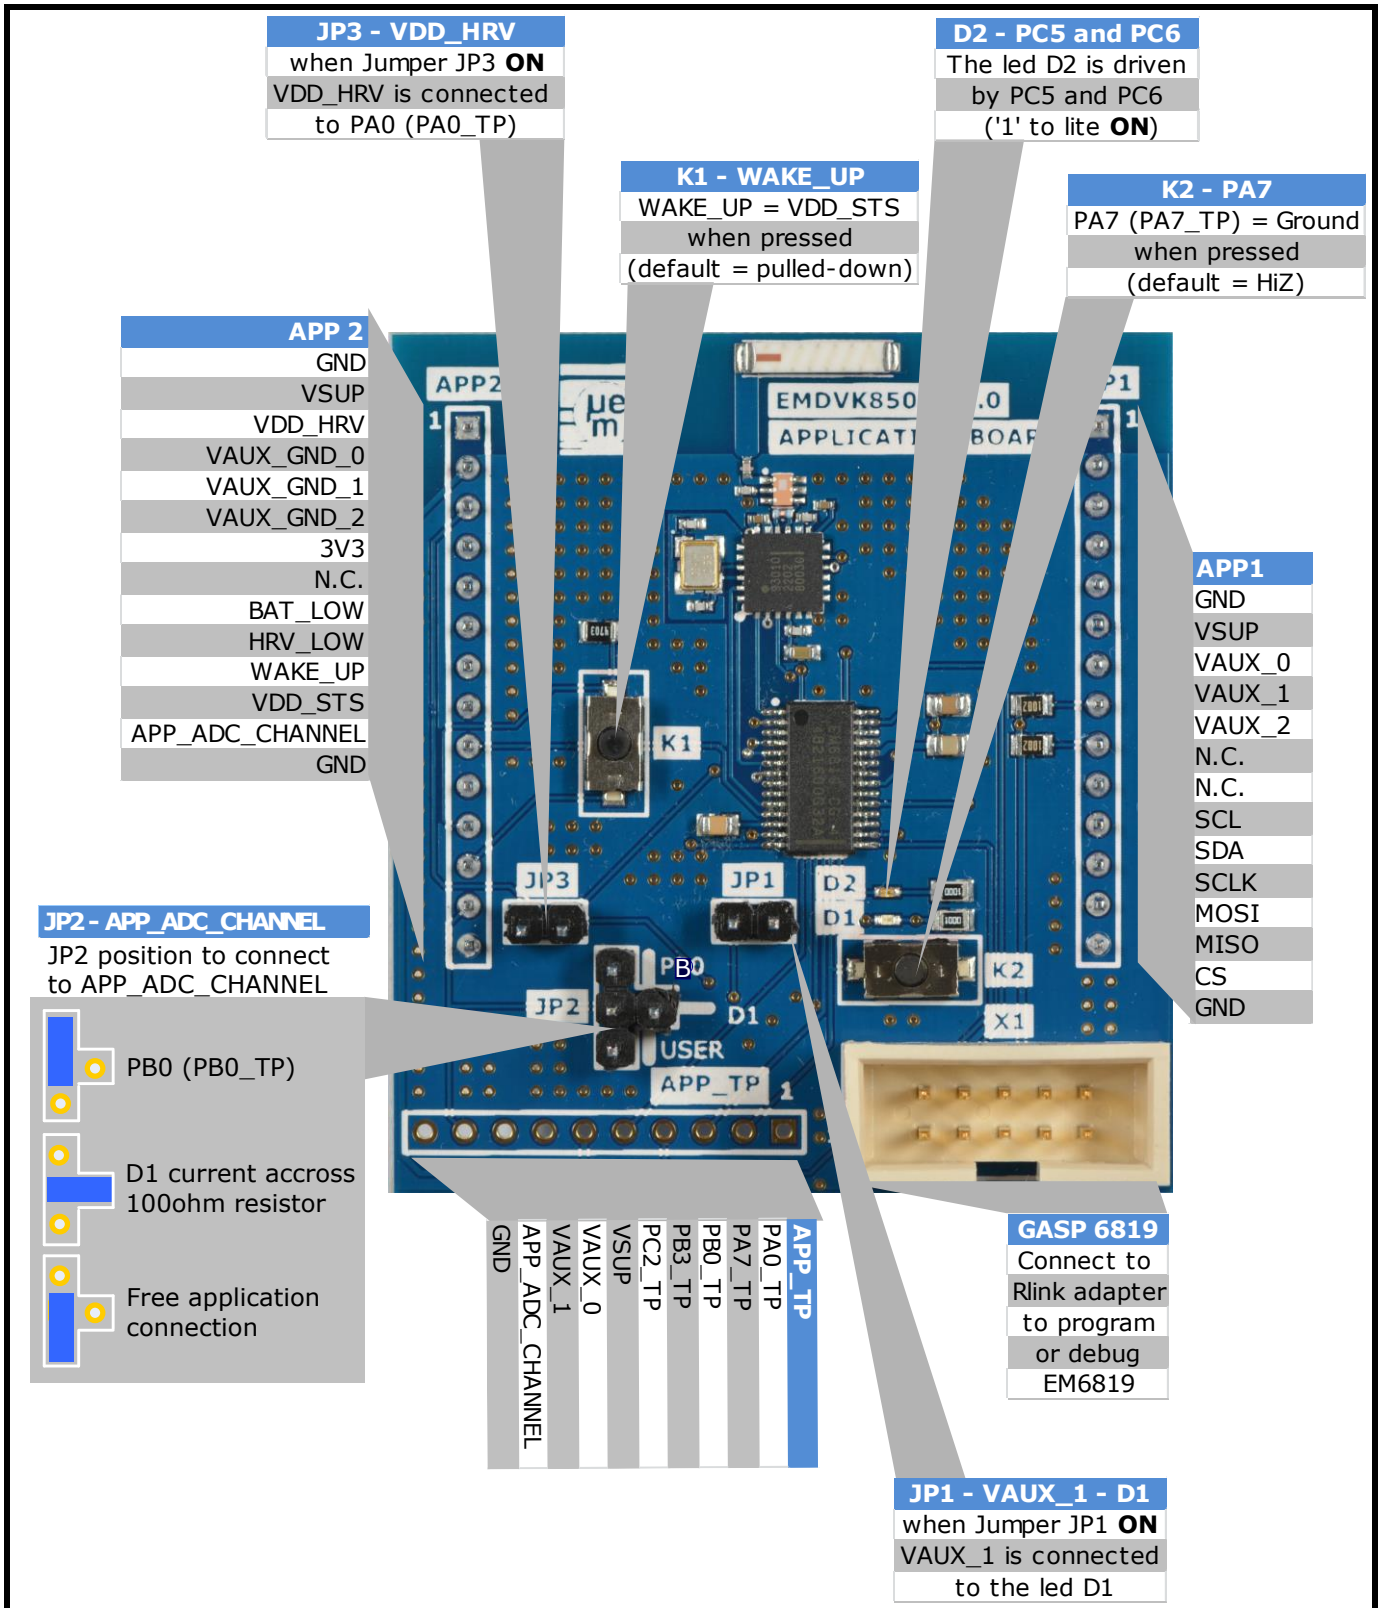
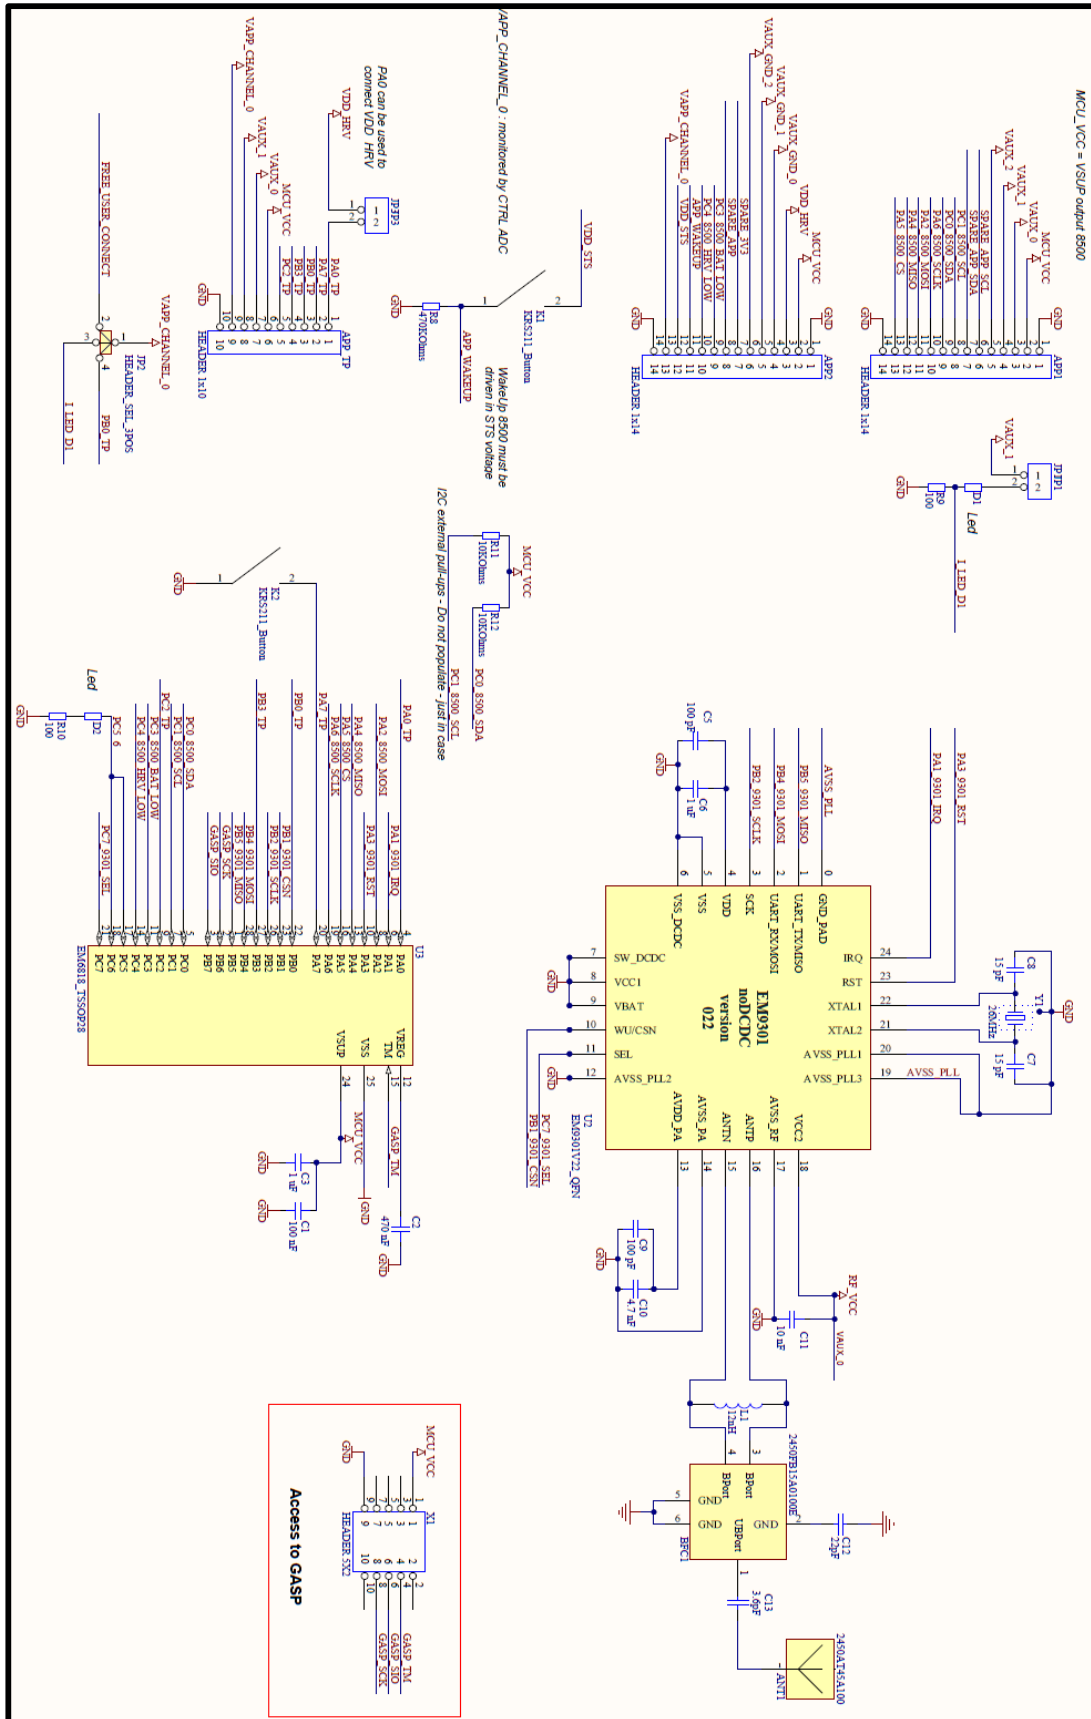
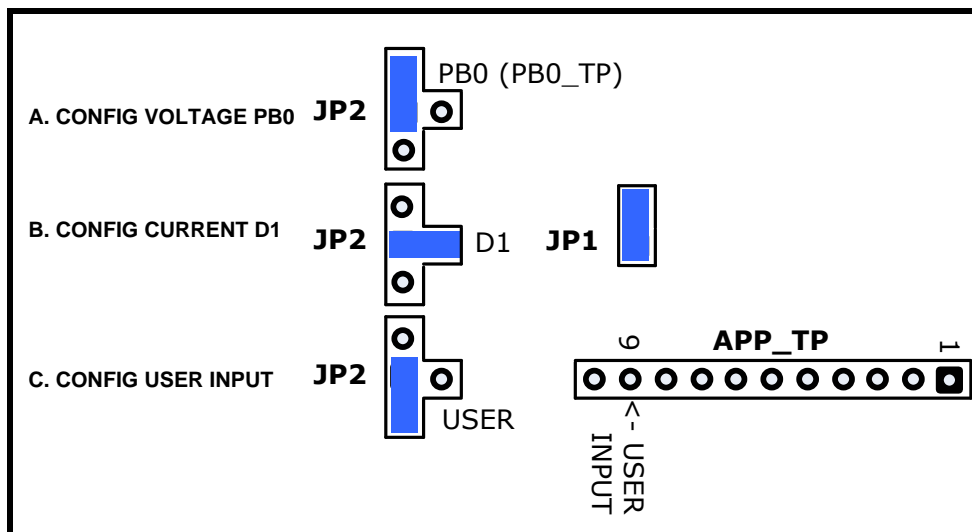

Figure 7-1: Application board description
Figure 7-2: Application board schematic
Figure 7-3: Configuration for ADC application input
One ADC single-ended channel is used for application board node voltage measurements. The node is shown in Figure 7-1: Application board description as "APP_ADC_CHANNEL" or Figure 7-2: Application board schematic as "VAPP_CHANNEL_0" or summarized below in Figure 7-3: Configuration for ADC application input.
The source of this ADC channel is selected through jumper JP2 as shown on the Figure 7-1: Application board description.
- I By connecting JP2 in position "PB0" the EM6819 pad PB0 (GPIO Port B bit 0) is connected to the A/D channel APP_ADC_CHANNEL ("VAPP_CHANNEL_0"). See Figure 7-3: Configuration for ADC application input configuration A.
- I By connecting JP2 in position "D1" the voltage across the resistor R9 serially connected to the LED D1, is connected to the A/D channel APP_ADC_CHANNEL ("VAPP_CHANNEL_0"). Additionally, to monitor the LED D1 current, the jumper JP1 must be placed to power D1 from the VAUX1 output of the EM8500. See Figure 7-3: Configuration for ADC application input configuration B.
- I By connecting JP2 to position "USER" the user input is connected to A/D channel APP_ADC_CHANNEL ("VAPP_CHANNEL_0"). The user signal can be applied on the connector APP_TP (pin 9). See Figure 7-3: Configuration for ADC application input configuration C.